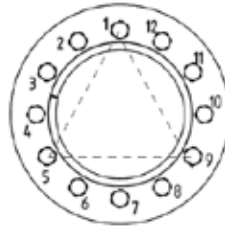

Fig. 7.12.4
- slightly tighten a first group of three screws positioned at about 120° as shown in fig. 7.12.4;